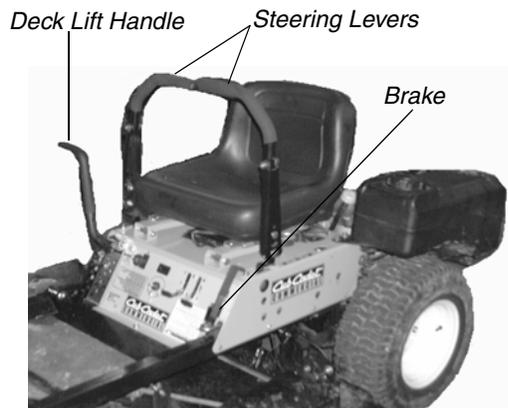

Figure. 3
3. **Left and Right Steering Levers:** (See Figure 3.) These levers control all of the movements of the mower. Pushing both levers forward causes the mower to move forward. Pulling both levers back causes the mower to move backward. Pushing one lever ahead of the other lever causes the traction wheel on the side where the lever is ahead to rotate faster than the other traction wheel, making the mower turn toward the side where the lever is behind. When one lever is pushed forward and the other lever pulled back the same amount, one traction wheel will turn in reverse and the mower will turn within its own length.
5. **Parking Brake:** (See Figure 3.) Located on the left side of the traction unit. The handle is an overcenter lever which applies the drum-type brake on each drive wheel when the handle is pulled to the rear. The brake must be engaged in order to start the engine.
6. **Deck Lift Handle:** (See Figure 3.) Located on the right front corner of the mowing deck. Raise the mowing deck to the transport position, by pulling the lever to the rear and moving it inward into the stop for transport. To lower the mowing deck, pull the deck lift handle and move it outward. This lowers the deck to the cutting position.